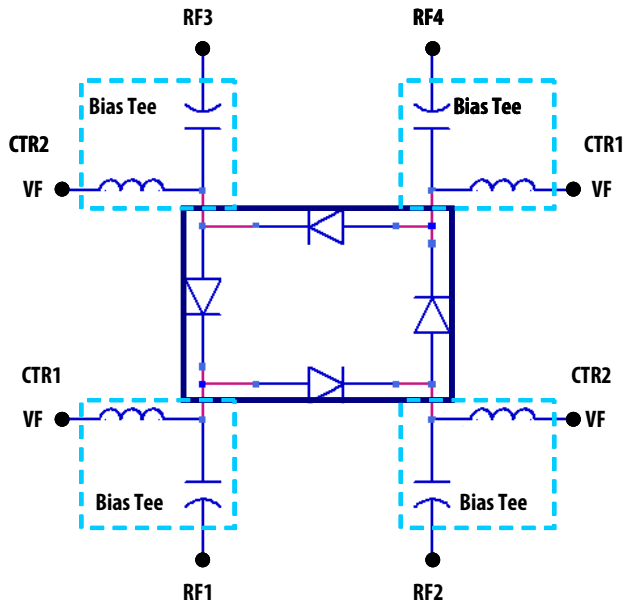

Figure 7. A diagram showing the application circuit for Diversity Switch using HSMF-386D.
4. Measurement obtained using the demoboard described in Figure 7 & 8.